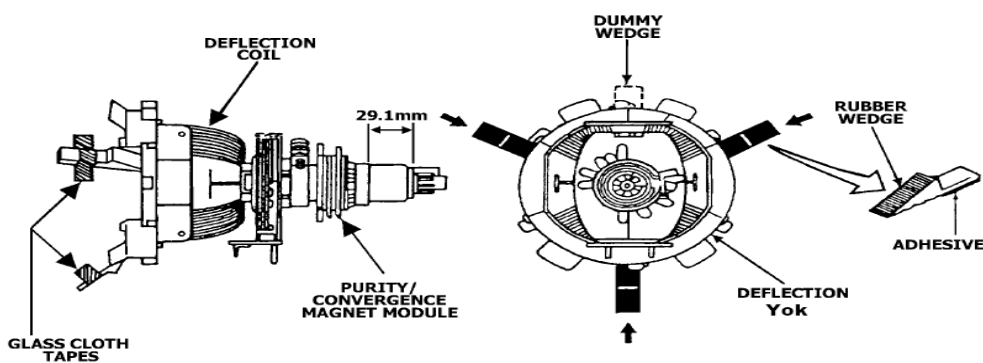

Fig. 1
1. Refer to Figure 1, remove 7screws.
Note: If the Picture Tube is being replaced, mount the Degaussing Coi l on the picture tube. See following Figure1.Cabinet Back Removal
1. The purity/convergence magnet assembly and rubber wedges need mechanical ositioning. Refer to Fig1, 2.